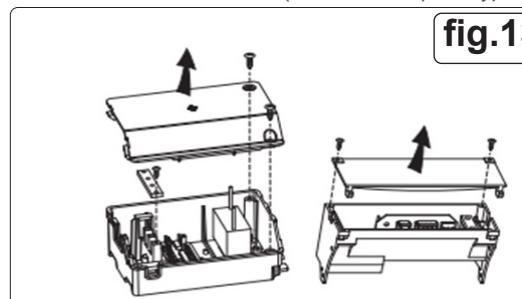

fig.13
- Locate the junction box, unscrew the screws on the junction box cover, then take off the junction box cover. If there is wire retaining plate this needs to be dismantled first. (Covers both option types fig.13).